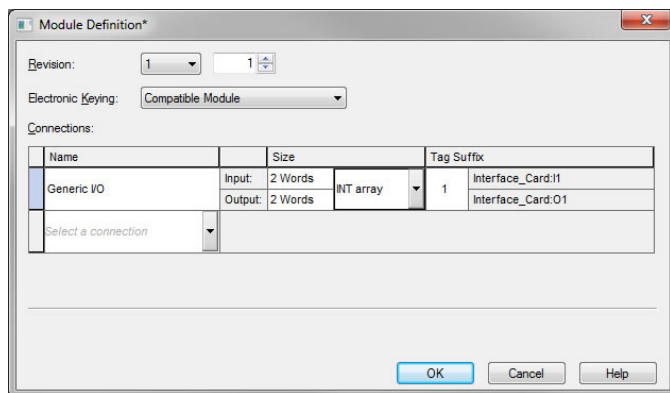

Figure 38: AOP Generic I/O Module Definition
- 3) Configure the Generic I/O connection. Refer to Figure 38.